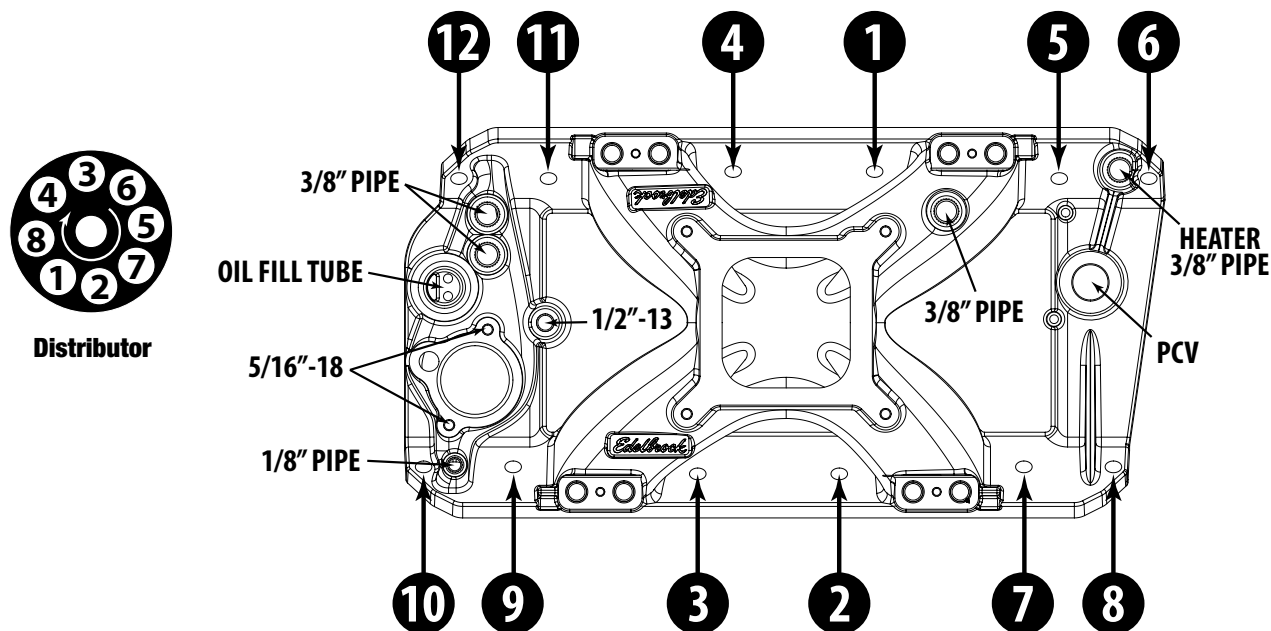

Figure 2 - 290-401 c.i.d. AMC Torque Sequence - Torque Bolts to 25 ft/lbs.
7. Torque all of the manifold bolts in two steps by the sequence shown in **Figure 2** to 25 ft/lbs.